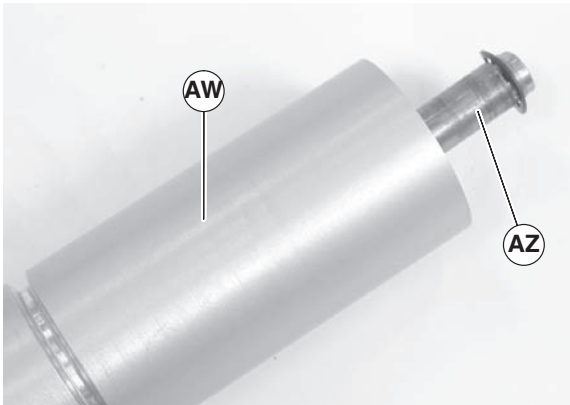

Figure 39
6. Slide the shaft assembly (Figure 39, item AZ) out of the pulley (AW).